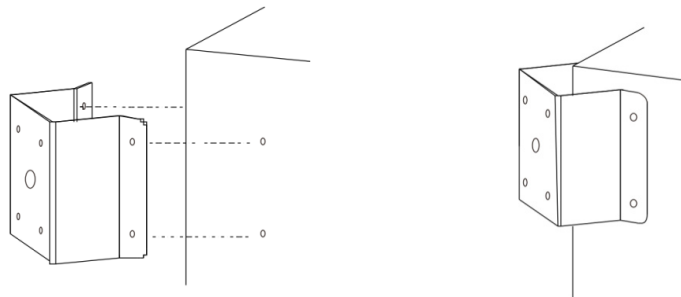

Figure 1-3-6 Figure 1-3-7
(1) Accessories: PTZ camera wall-mounted bracket (load-bearing 10kg); bracket accessories - corner steel plate (load-bearing 70kg).
(2) Install the corner fittings.
a. As shown in Figure 1-3-6, use the mounting holes and outlet holes of [Bracket Accessories - Corner Steel Plate] as a template to draw and drill holes on the wall.